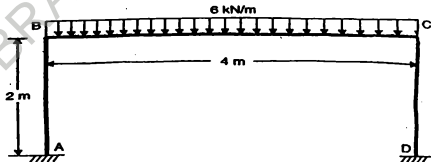

Figure 3
13. (a) Analyze the portal frame as shown in Figure 3 by Kani's method. Draw the Bending Moment Diagram and sketch the deflected shape of the frame. Take EI as constant for all the members.